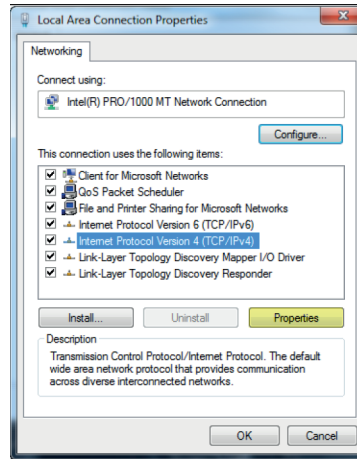

Fig. 14 Local Area Connection Properties
- ➡ 4. In the Local Area Connection Properties window, see Fig. 14, mark Internet Protocol Version 4 (TCP/IPv4) and go again to Properties.